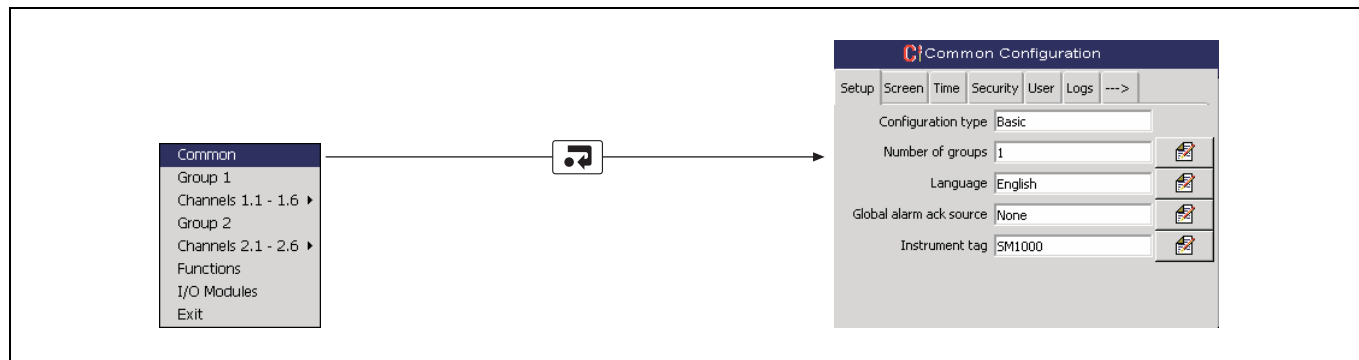

Fig. 4.7 Selecting Common Configuration
- Changes to the date and time are effective immediately upon selecting 'OK' in the dialog box above. Selecting 'Cancel' upon exiting Configuration Mode (see Fig. 4.7, page 51) **does not** reset the clock to its previous setting. Select 'Cancel' in the dialog box above to exit date and time setup without saving changes.
**Note.** Changes to daylight saving are effective immediately a method is selected. However, if 'Cancel' is selected upon exiting Configuration Mode (see Fig. 4.7, page 51), the last saved daylight saving settings are restored.